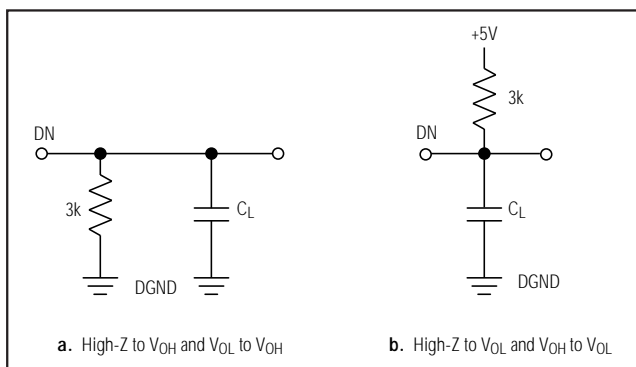

Figure 1. Load Circuits for Access Time
**Note 15:**  $t_3$  and  $t_6$  are measured with the load circuits of Figure 1 and defined as the time required for an output to cross 0.8V or 2.4V.